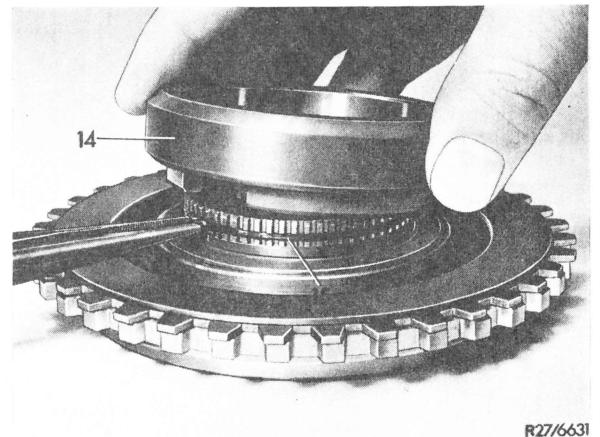

Fig. 11
14 Compress circlip (15) with pointed pliers and lift roller clutch outer race (14) from supporting flange K 2 (Fig. 11).
22 Insert roller clutch outer race (14) into supporting flange and lock with circlip (15) watching out for correct seat of circlip (Fig. 11).